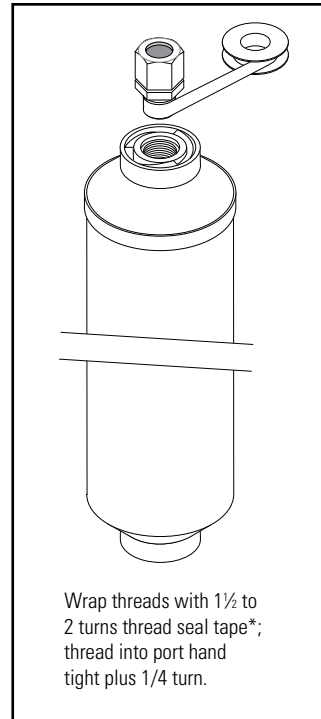

Figure 1 JACO Fittings: Wrap fitting with Teflon® Tape and tighten.
4. Connect the inlet lines. See Figures 1 through 3 below.